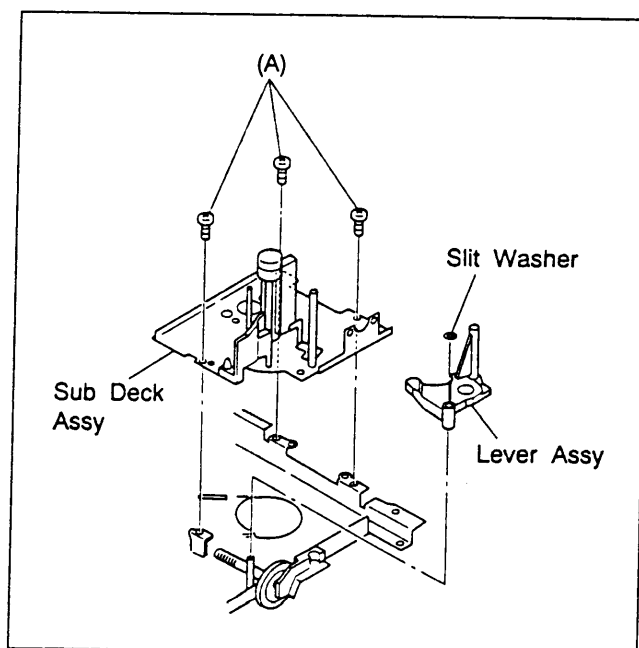

Fig.2-5-8
- (3) Take out 3 screws (A) and remove the sub deck assy as indicated in Fig.2-5-8.